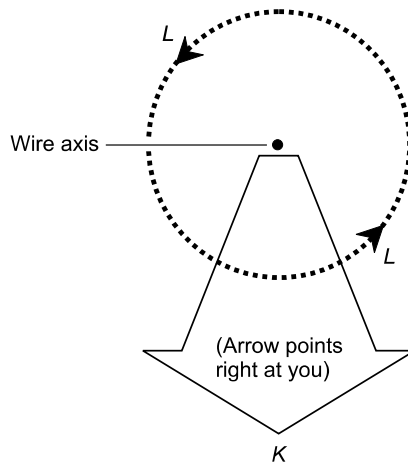

Fig. Exam-5. Illustration for Final Exam Questions 45 through 47.
45. Figure Exam-5 shows a current-carrying wire as viewed from right along its axis. The large, clear arrow marked *K* points directly at you, straight out of the page. The dashed circle represents
46. In Fig. Exam-5, suppose the magnetic flux flows counterclockwise. The conventional current
47. In Fig. Exam-5, what do the arrows marked  $L$  represent?